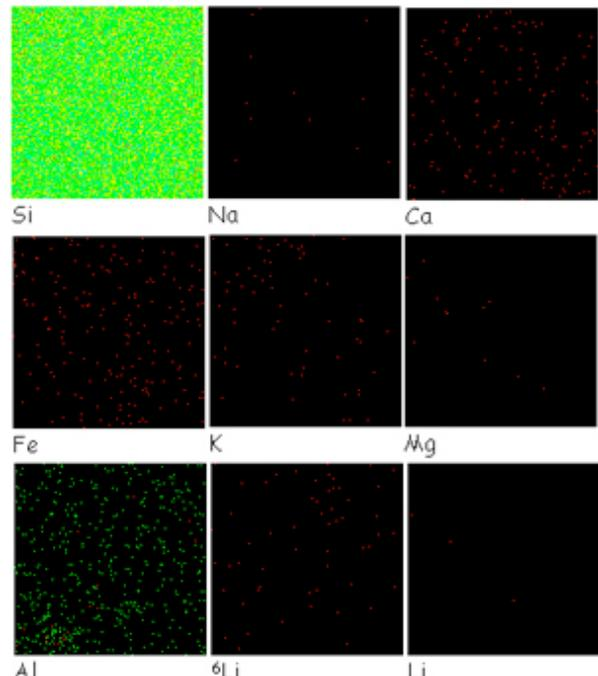

Figure 4. 500x500  $\mu\text{m}$  ion image of Li-implant sample 60471. 300 sec analysis time.
**Sample 60471.** 60471 are a Li-implant flight sample. Compared to 60289 it is exceptionally clean to TOF-SIMS, with areas not showing any particle contamination (Figs 4 and 5). After sputtering off the organic film, Al and 6Li backgrounds were detected on the surface of the Si wafer. Dark band at the bottom of the images is a boundary of pre-sputtered area.